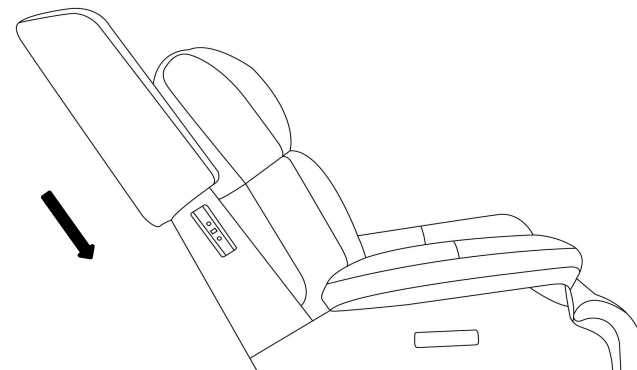

Figure 4
Attach the Wing to the Back (A). Ensure the latches fit well (See Figure 4.)